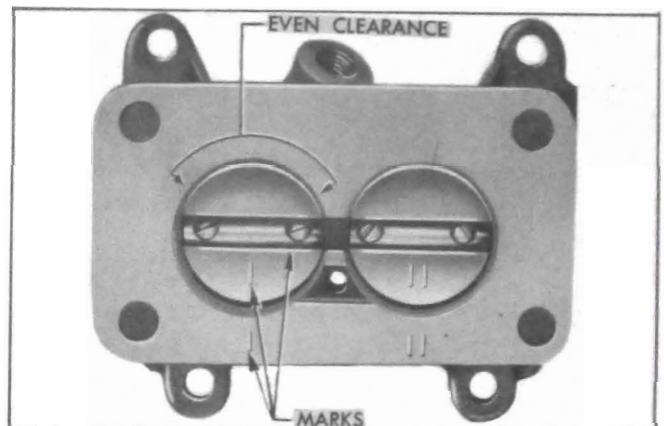

Figure 3-74—Correct Position of Throttle Valves
15. Before throttle valves are removed, they should be marked so that each valve may be reinstalled in the barrel from which it was removed and may be accurately positioned in the barrel of throttle body. Using a sharp scriber, lightly scratch one line on one valve and its barrel and two lines on the other valve and barrel; also scribe lines on each valve along both edges of the valve stem. See figure 3-74. After
3. Reinstall each throttle valve in the same barrel of throttle body from which it was removed, as shown by identification marks made before removal. The dash mark (-) stamped in valve must be toward top of body. Loosely install new valve screws and carefully align the valves with the scribe marks previously made along edges of valve stem, then tighten screws. See figure 3-74.
4. With valves held in closed position, hold throttle body to the light and check for even clearance between each valve and the barrel. See figure 3-74. If clearance is excessive at any point, shift valve in stem until it fits the barrel with the least amount of light showing around the edge, then tighten screws firmly and recheck clearance.